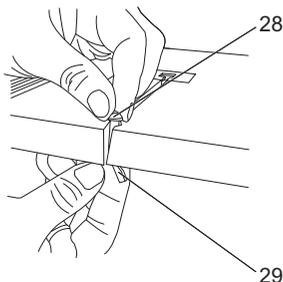

Fig. 1
- > Remove the bolt (28) and wing nut (29) from the hole located in the front edge of the table. (Fig. 1)